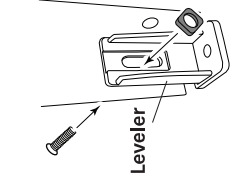

Fig. 4
- Mount leveler** to each leg. Note that there are two holes in the bottom of the leg at different locations. Select the proper hole that will allow access to the screw head after the tub is in the desired location. Attach leveler with 1/4 in. (0.63 cm.) bolt and nut and hand tighten it. **DO NOT** over-tighten it in this step (see Fig. 4).